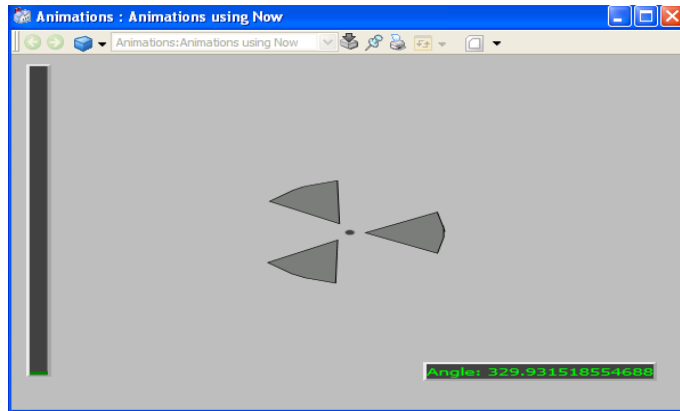

Figure 180. Main View of Animations
Figure 180 shows the main view of the **Animations using Now** display.
1. Place an **Ellipse** and three **Polygons** (**Toolboxes > Shapes**) into the edit panel. Refer Figure 180.